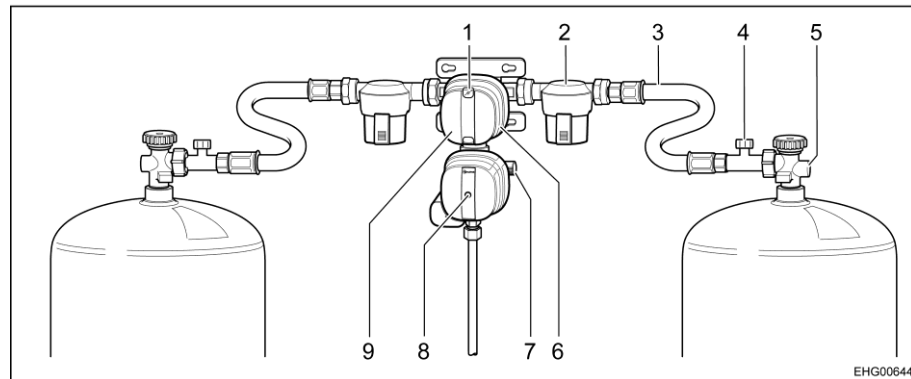
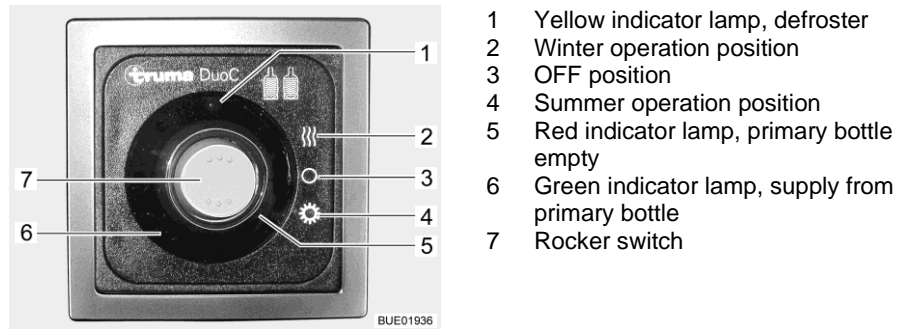

Fig. 36 Gas pressure regulating system DuoControl CS
Fig. 37 Operating unit (DuoControl)
The DuoControl regulating system consists of a reversing valve with crash sensor (Fig. 36,9). The DuoControl regulating system is installed between the high-pressure hoses (Fig. 36,3) with hose break guard (Fig. 36,4). The knob (Fig. 36,6) on the reversing valve is used to select which of the gas bottles is to be used as primary bottle and which is to be used as reserve bottle.
The status of the gas supply is indicated by the status indicator (Fig. 36,1):
The operation with only one gas bottle is allowed but in this case the open connection must be closed with a screw cap (Fig. 36,7).
The crash sensor blocks the gas supply in the event of a significant impact (e.g. accident). The crash sensor is put into operation with the yellow reset button (Fig. 36,8).
The hose break guard (Fig. 36,4) blocks the gas flow if the connected hose breaks.
At the operating unit (Fig. 37), the gas supply via the DuoControl regulating system is switched on and off. The regulator taps (Fig. 36,5) of the gas bottles and the gas isolator taps of the devices must be opened manually.
Summer and winter operation are switched with the rocker switch (Fig. 37,7) on the operating unit.
The two indicator lamps on the operating unit indicate the level of the primary bottle. When the green indicator lamp (Fig. 37,6) is lit, the primary bottle is sufficiently filled. When the red indicator lamp (Fig. 37,5) illuminates, the primary bottle is empty. In this case, the reserve bottle is used for the gas supply.
- Use the knob (Fig. 36,6) on the reversing valve to select the gas bottle which is to be the primary source of gas (primary bottle). Always turn the knob as far as it will go.
- Open regulator taps (Fig. 36,5) on the gas bottles.
- Activate the hose break guard (Fig. 36,4); in order to do this, press the hose break guard for approx. 5 seconds. The green marking is shown by the status indicator (Fig. 36,1).
- Switch on the DuoControl regulating system at the operating unit (Fig. 37). To do so, set the rocker switch (Fig. 37,7) to winter operation (Fig. 37,2) or to summer operation (Fig. 37,4). The yellow defroster indicator lamp (Fig. 37,1) is lit when winter operation is selected.
- Set the rocker switch (Fig. 37,7) to the OFF position (Fig. 37,3). The indicator lamps go out.
- Close regulator taps (Fig. 36,5) on the gas bottles.
If the green indicator lamp (Fig. 37,6) goes out during operation and the red indicator lamp (Fig. 37,5) lights up, the primary bottle is empty and must be changed. The red marking is shown by the status indicator (Fig. 36,1). The reserve bottle continues supplying the gas appliances with gas.
- Turn the knob (Fig. 36,6) a half turn in the direction of the currently used gas bottle. In this way, this gas bottle is the primary bottle now, and the empty gas bottle becomes the reserve bottle. The marking of the status indicator (Fig. 36,1) changes from red to green.
- Close regulator tap (Fig. 36,5) on the empty gas bottle. Pay attention to the direction of the arrow.
- Activate the hose break guard (Fig. 36,4); in order to do this, press the hose break guard for approx. 5 seconds.